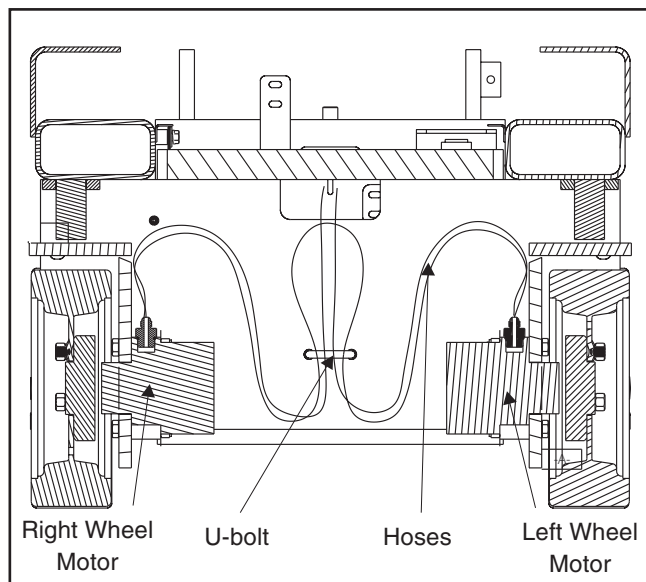

Figure 4.3—Hose Routing (front view)
- After routing the power hoses through the access hole in the back wall of the wheel chamber and through the u-bolt mounted to the wall, attach both hoses to the “B” ports of the right and left motors. Measure 22 inches from the u-bolt to the right motor and 18 inches from the u-bolt to the left motor (see figure 4.3). The ports are clearly labeled on top of each motor.
- Route the connecting hose from port “A” of the right motor to port “A” of the left motor through the u-bolt with 19 1/2 inches of hose from the u-bolt to the right motor and 23 inches of hose from the u-bolt to the left motor (figure 4.3).